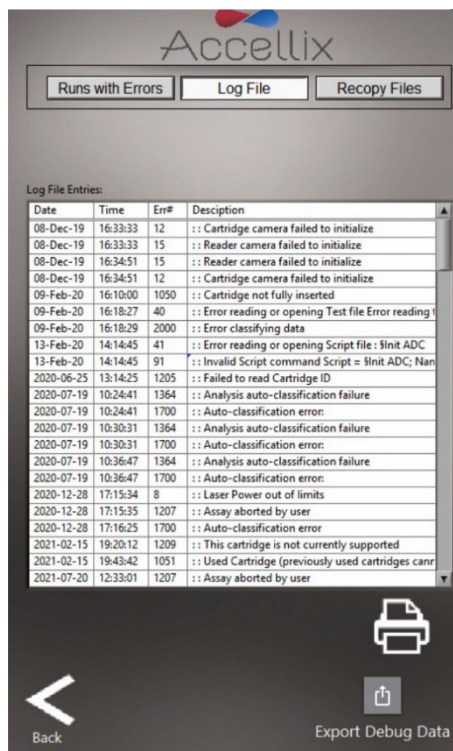

Figure 24: View Log File screen
2. If **Log File** tab is selected, the Log File Entries are displayed (Figure 24). Tap the printer icon